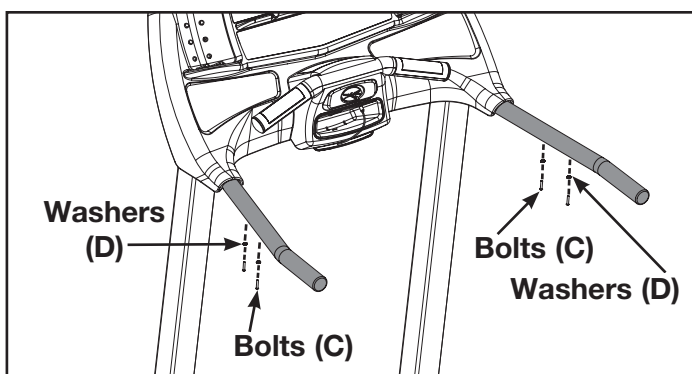

Figure 40
**D.** Using the 1/4" hex key (E), install and tighten both bolts (C) and washers (D) per handrail. See Figure 40.